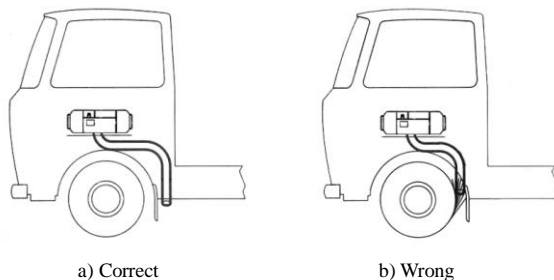

Fig. 24
4.6.5 Arrangement of the pipes shall protect the pipe openings from blocking by slurry, rain and snow or other dirt. (Fig. 24)